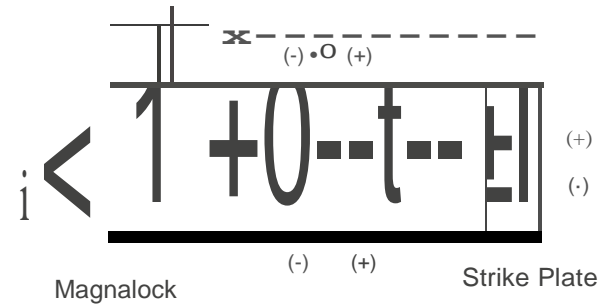

Figure 19. Magnalock and Strike Plate Alignment
**NOTE 1:** When installing the Magnalock and strike plate, each should be in proper alignment to the other (see Figure 19, "Magnalock and Strike Plate Alignment"). This is considered critical for the operation of both the BondSTAT and OPS. However, there are alignment tolerances for each model of Magnalock, but these should be viewed as the extreme—the installation desire is always total alignment.